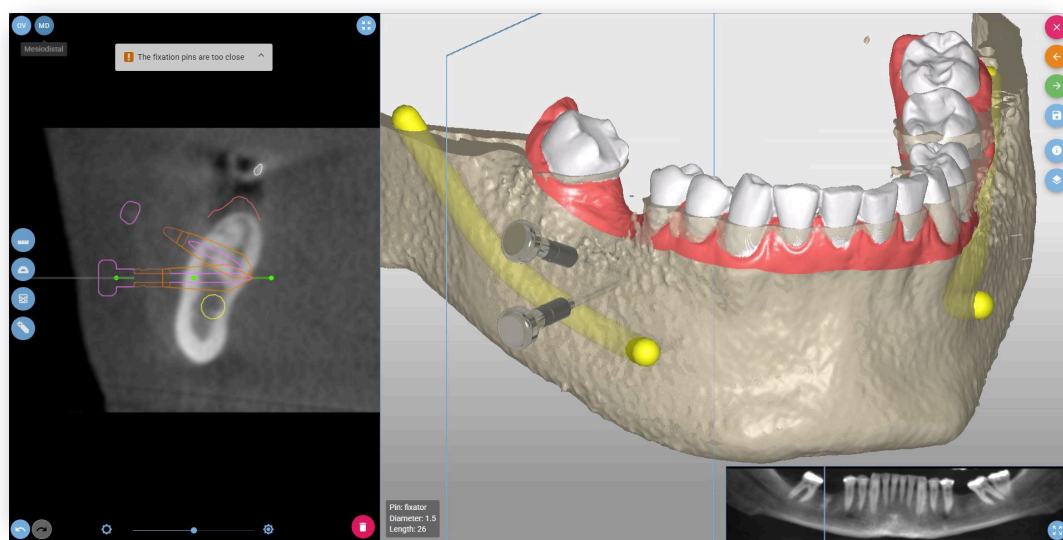

Figure 48: The fixation pins are in a conflicting position.
- Two fixation pins are in a conflicting position (Figure 48).